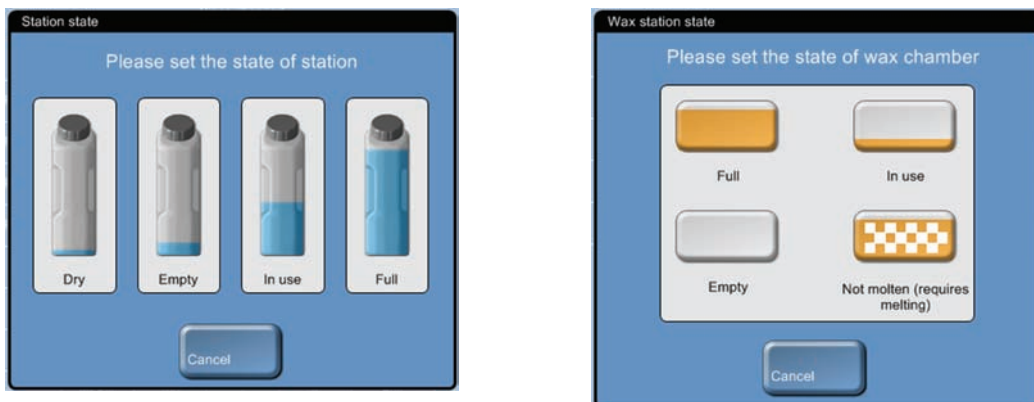

Figure 100: Station state dialog box for reagent stations (L) and wax stations (R)
- The "Station state" dialog box will now appear (see Figure 100).
- Select the **Cancel** button if you wish to end this procedure without changing the state (see Figure 100).
- Select the appropriate state icon to immediately set the station's state (see Figure 100). You will now return to the stations screen and the new state will be set.